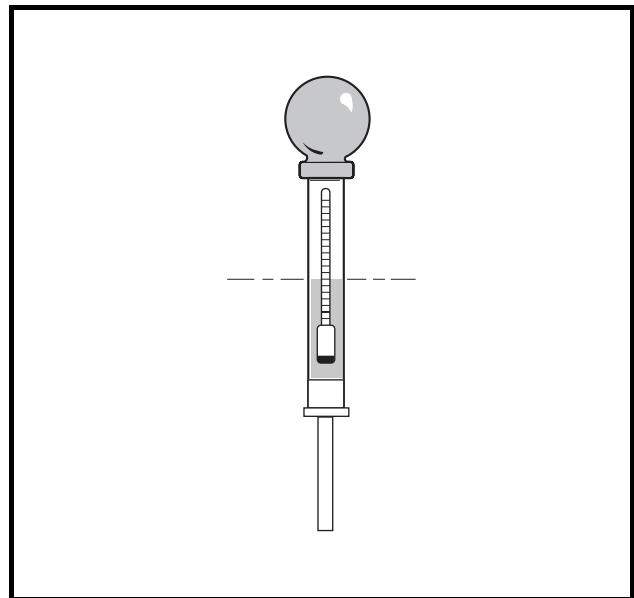

Figure 11-7 Hydrometer Test
A hydrometer (CCI P/N 1011478) measures the specific gravity. The greater the specific gravity, the greater the state of charge of the battery. A fully charged battery should read between 1.250 and 1.280 at 80 °F (27 °C). Never add acid to the battery to obtain a higher specific gravity (**Figure 11-7, Page 11-13**).
6. Hold the hydrometer vertically, ensuring that the float is not contacting the sides of the glass tube. Hold the hydrometer at eye level and read the scale at the level of electrolyte (**Figure 11-7, Page 11-13**).